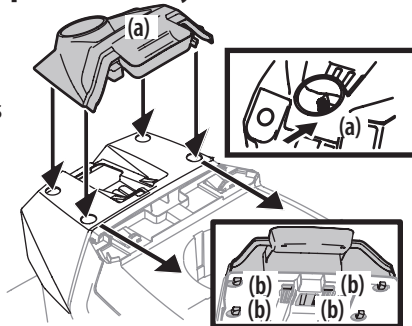

Figure 8
- To install the dash cap (a), line up the tabs (b) on the dash cap (a) with the holes in the upper dash as shown in Figure 8.